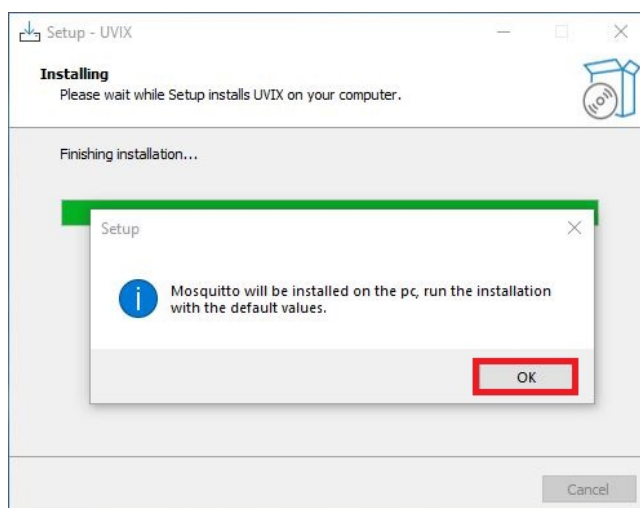

Figure 4.4: Fast Mode installation
4. Click "Ok" to confirm the installation of Fast Mode, as shown in Figure 4.4.